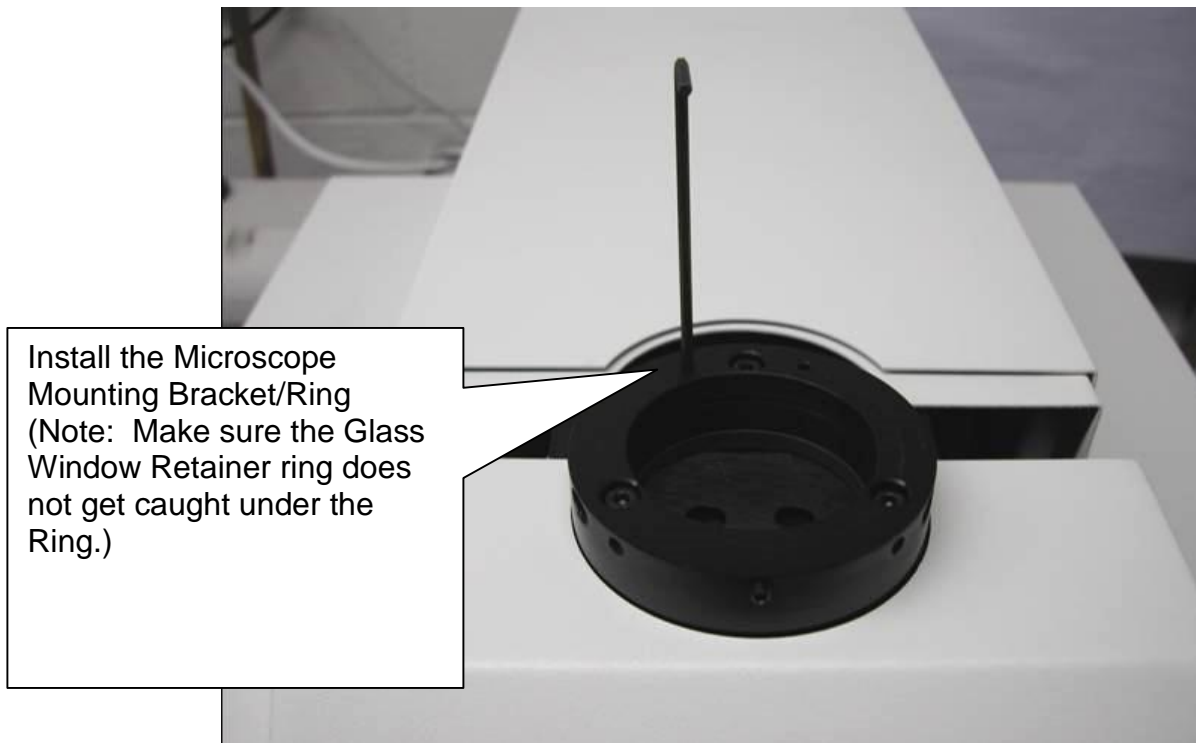

Figure 13
- J Install the stereo microscope mounting bracket (Note: Make sure the View Glass Retainer does not interfere with the bracket) **Figure 13**